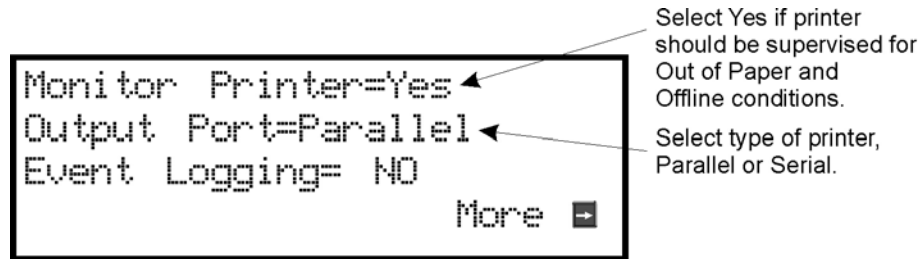

Figure 4.34 Selecting Printer and Output Port Options
5. Press ENTER to bypass the next two screens. A screen similar to the one shown in Figure 4.34 will display.